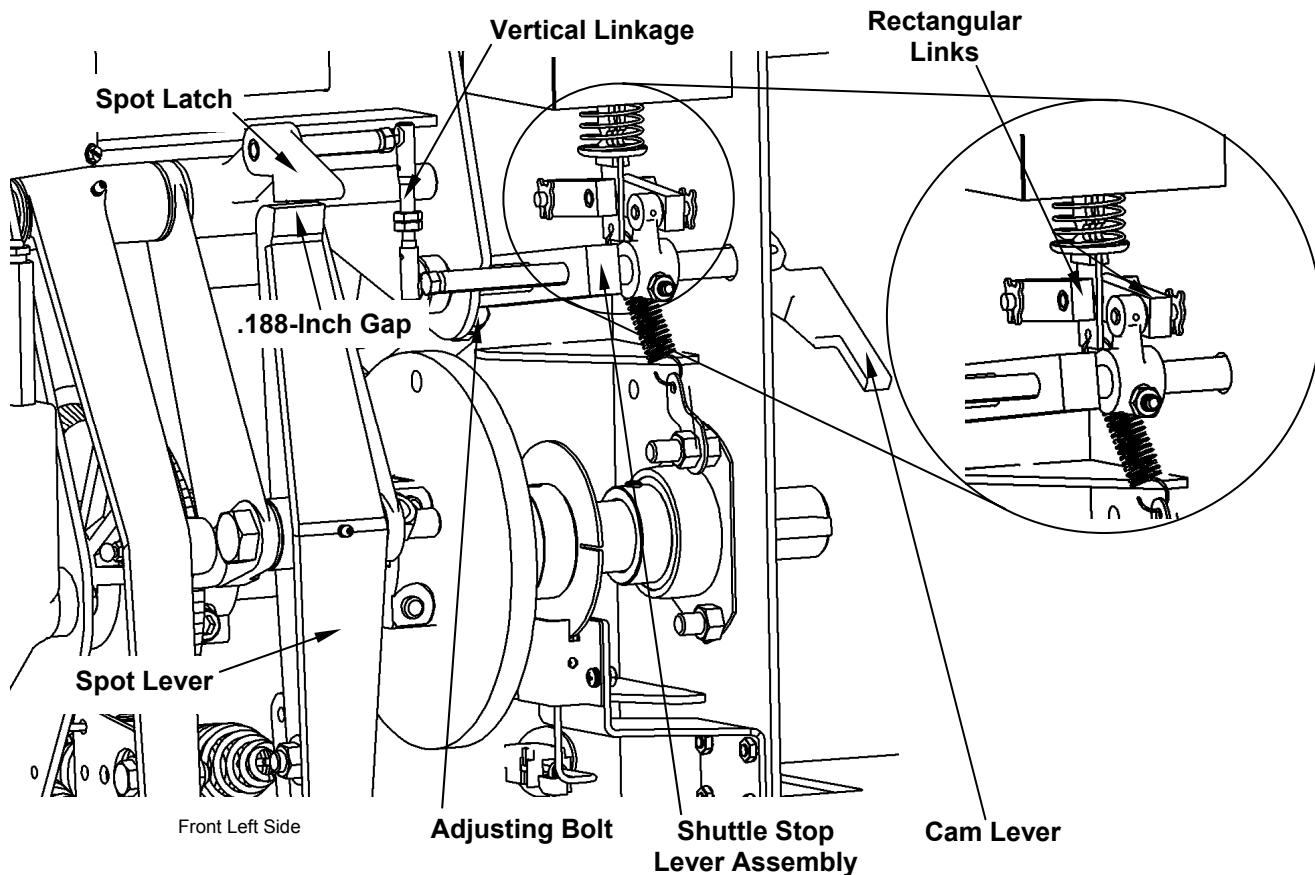

Figure 4.2-14
- With the table at the home position, the distance between the end of the shuttle stop lever assembly and the adjusting bolt (see Figure 4.2-14) should be .015 inches. Adjust the bolt to provide this spacing and then tighten the jam nut.
- When the spotting solenoid is actuated, the cam lever should be locked in the down position. This locked condition is established when solenoid engagement causes the two rectangular links (see Figure 4.2-14) to align horizontally. Test for locking by manually engaging the solenoid and then pulling up on the cam lever. The lever must remain in the down position. This rigidity is necessary to disengage the eccentric's latching mechanism during a spotting cycle. If the lever moves, some part of the linkage is worn or broken and must be replaced.